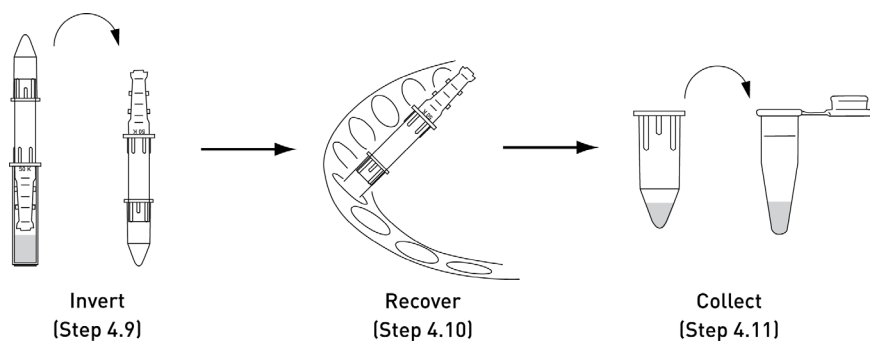

Figure 6 Collection of purified and concentrated azide-modified antibody
4.9 Invert the antibody concentrator into the conical collection tube as shown in Figure 6.